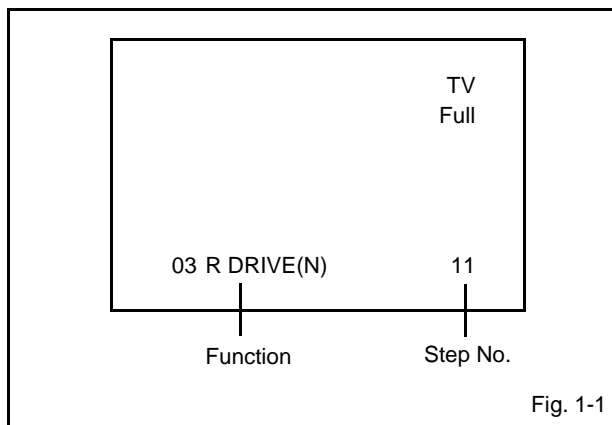

Fig. 1-1
2. Press the VOL. DOWN button on the set and the channel button (**9**) on the remote control for more than 2 seconds to display adjustment mode on the screen as shown in **Fig. 1-1**.
4. Activate the adjustment mode display of **Fig. 1-1** and press the channel button **(32)** on the remote control to select "BRIGHTNESS CENT".
10. Activate the adjustment mode display of **Fig. 1-1** and press the channel button **(32)** on the remote control to select "BRIGHTNESS CENT".
19. Activate the adjustment mode display of **Fig. 1-1** and press the channel button **(32)** on the remote control to select "BRIGHTNESS CENT".
25. Activate the adjustment mode display of **Fig. 1-1** and press the channel button **(32)** on the remote control to select "BRIGHTNESS CENT".
31. Activate the adjustment mode display of **Fig. 1-1** and press the channel button **(32)** on the remote control to select "BRIGHTNESS CENT".
4. Activate the adjustment mode display of **Fig. 1-1** and press the channel button **(51)** on the remote control to select "CONTRAST MAX".
10. Activate the adjustment mode display of **Fig. 1-1** and press the channel button **(51)** on the remote control to select "CONTRAST MAX".
19. Activate the adjustment mode display of **Fig. 1-1** and press the channel button **(51)** on the remote control to select "CONTRAST MAX".